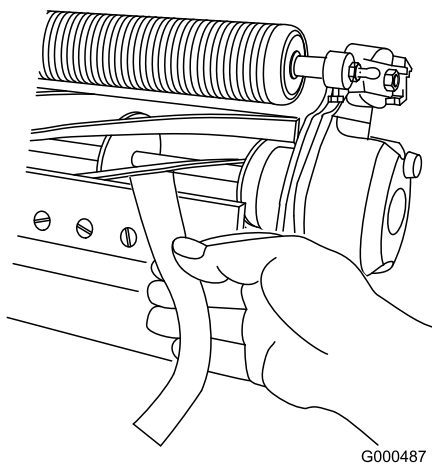

Figure 12
3. Test the cutting performance by inserting a long strip of cutting performance paper (Toro part number 125-5610) between reel and bedknife, perpendicular to the bedknife (Figure 12). **Slowly** rotate the reel forward; it should cut the paper.